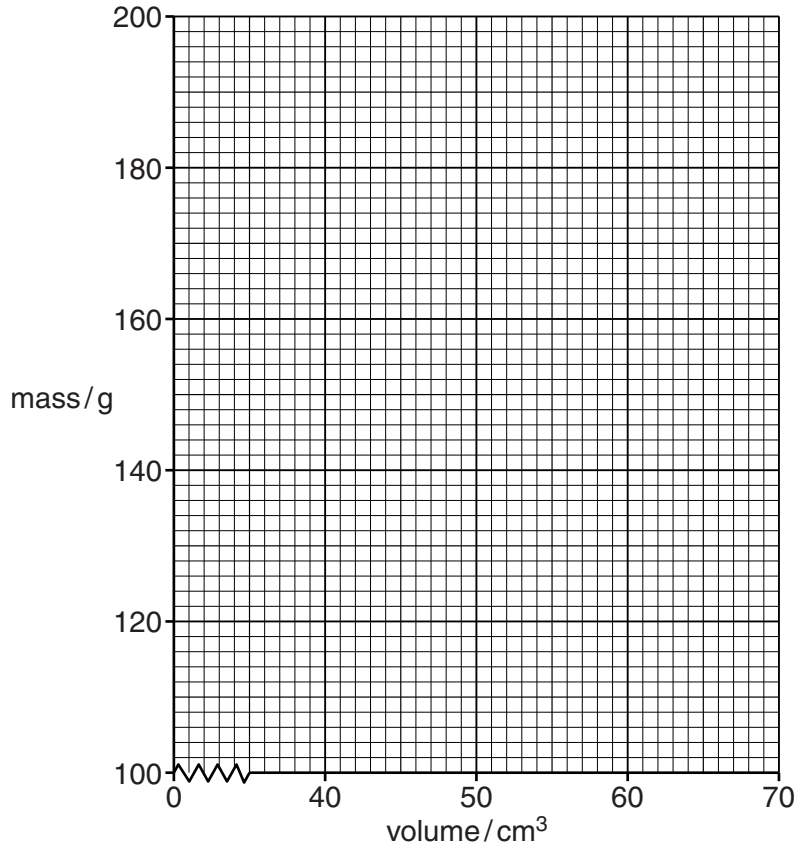

Fig. 1.2
- 1 Plot the values on the graph, Fig. 1.2, **omitting those for sample B.** [1]